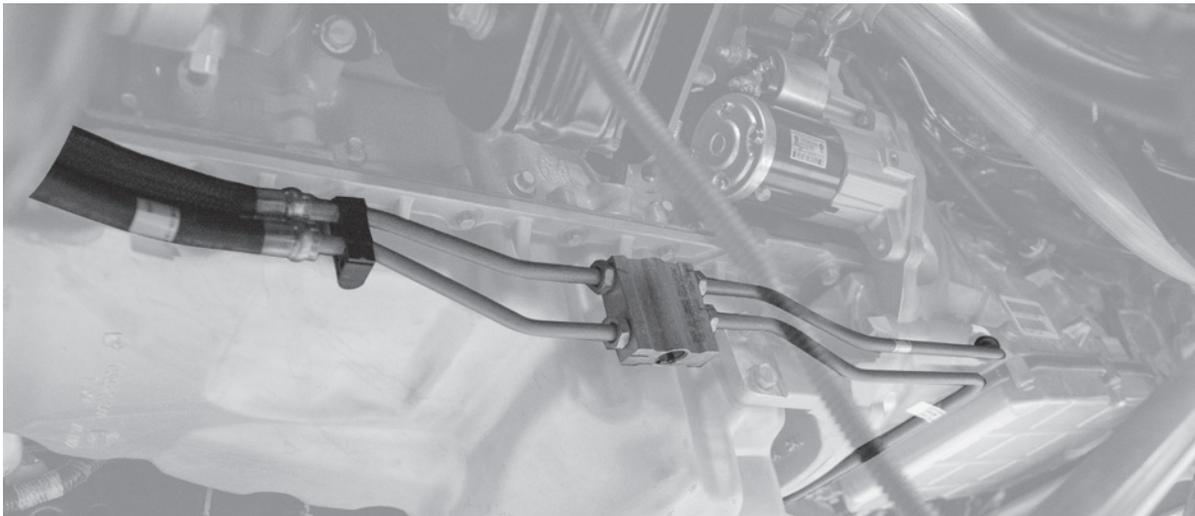

Figure 28
31. Install the new transmission oil cooler line assembly to the power train (fig 28).